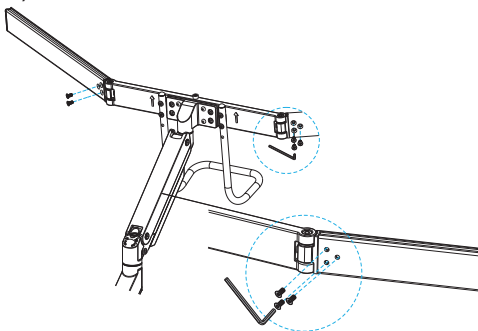

Figure 16
4. Insert the **Crossbar, Left** and **Right** onto the **Crossbar, Centre**. Insert the **Countersunk Screws** (x 6) through the **Crossbar, Left** and **Right**, and into the **Crossbar, Centre**. (Figure 16)
5. Use the **4mm Hex Key** to tighten the **Countersunk Screws**. (Figure 16)